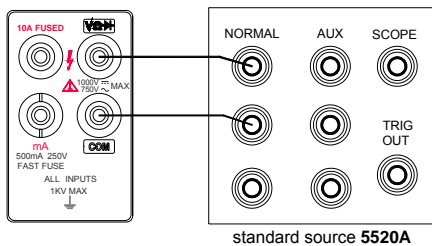

Figure 5-1
- 2) Placed the standard equipment in the “STBY” state, and connected with the meter as shown in Figure 5-1.
- 2) Connect the standard equipment with the meter as shown in Figure 5-1 before.
- 2) Connect the standard equipment with the meter as shown in Figure 5-1 referred before.